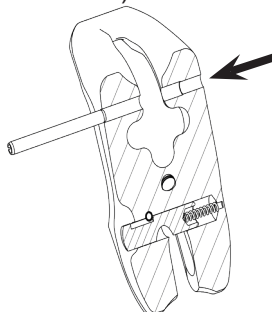

Fig. 30
1. For easy dismantling, always remove the locking pin with the hammer as shown in fig. 30 (opposite to the bolt).